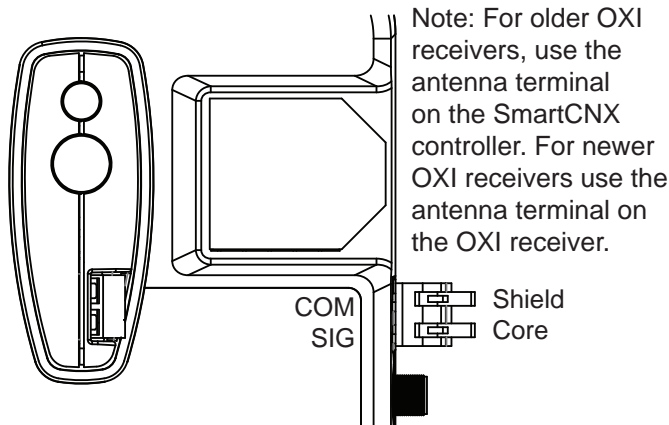

Figure 69. OXI Antenna Terminal
3. Install a whip or coaxial antenna into the OXI antenna terminal for better range (Figure 69). Mount any external antenna onto the top of a fixed fence post near the operator.